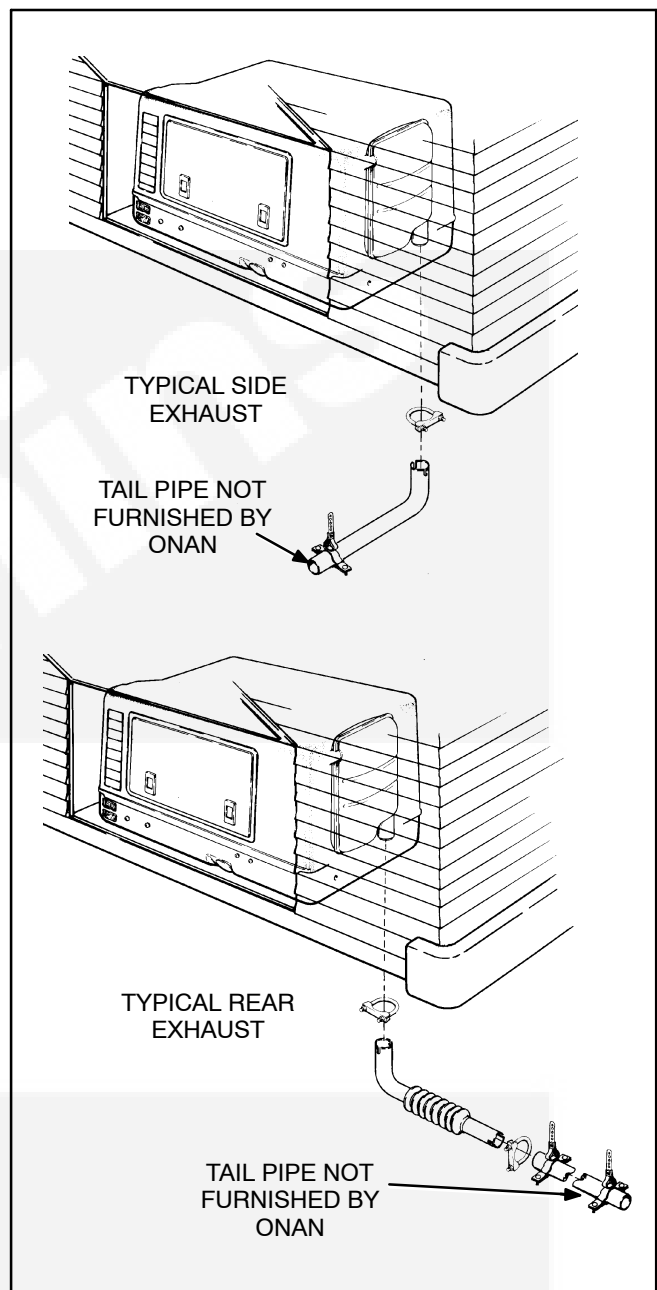

FIGURE 8-2. MODEL KV EXHAUST TAILPIPE
2. Loosen the clamp securing the tail pipe to the muffler and pull the tail pipe away (Figure 8-2).